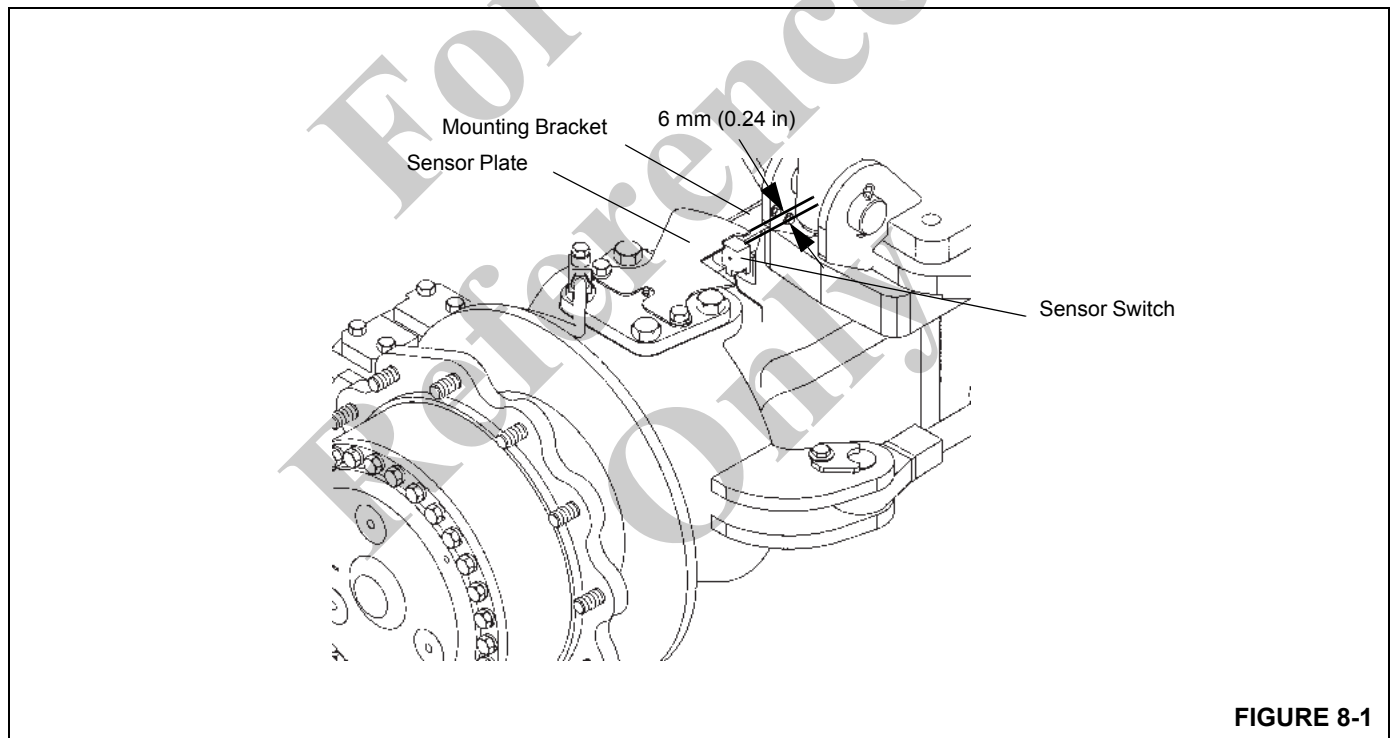

FIGURE 8-1
**NOTE:** When performing rear steer indicator adjustment using the following steps, refer to Figure 8-1.